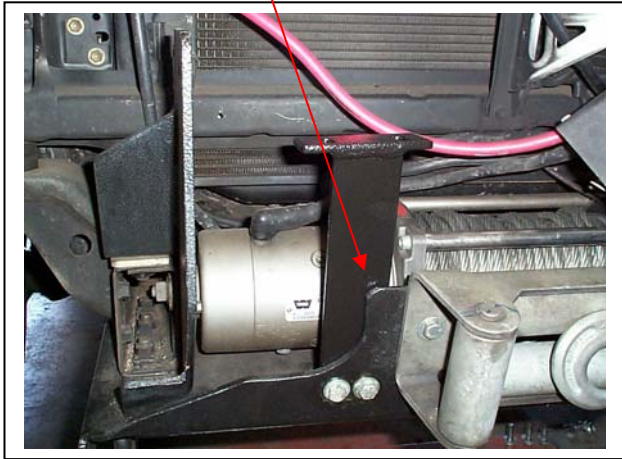

Figure 10 – 98-9/02 model shown
18. Position control bracket on **outside** (10/02- models) **inside** (98-9/02 models) of winch mounting bracket. Use 3/8 x 1 ¼ bolts/nuts and washers (supplied). **FINGER TIGHTEN ONLY. See figure 10 & 10a.**